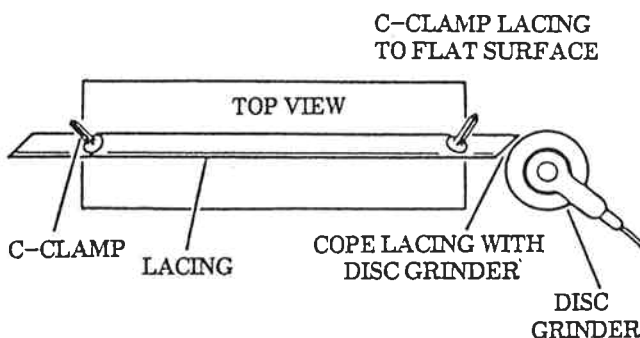

Fig. 2-11 Coping Lacing With Disc Grinder
5. Cope the lacing as shown in Fig. 2-11. Carefully contour fit the ends of the replacement lacing so that it fits within 1.2mm (3/64 inch) for the boom tip and base or within 0.8mm (1/32 inch) for the boom insert all around the joint and a slight drive fit is required to align the lacing in its proper location (see Fig. 2-11). This fitting is very important as excessive opening will result in greater weld metal deposit, excessive heat buildup which can materially weaken the joint and also result in very undesirable distortion and locked up stresses. Weld sizes required to attach the lacings to the chords can be determined by looking at the previous welds on the other unaffected joint on the boom. These will usually be from 3mm (1/8 inch) to 5mm (3/16 inch) leg size. It is extremely important that this fit and weld size be maintained so as not to induce an imbalance of weld shrinkage and locked up stresses.